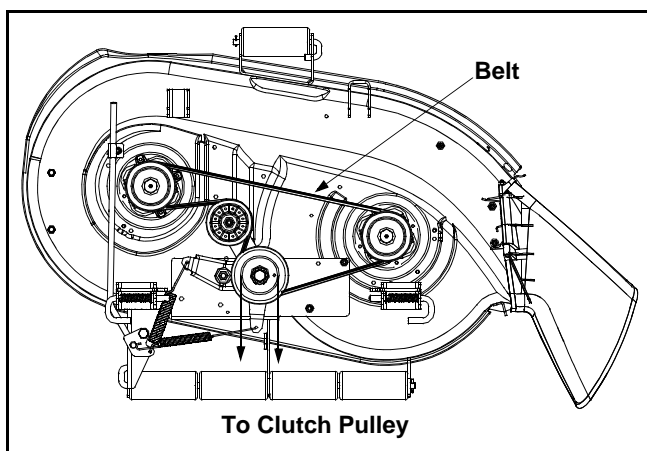

Figure 26
- Install and route the new belt according to the routing diagram. See Figure 26.